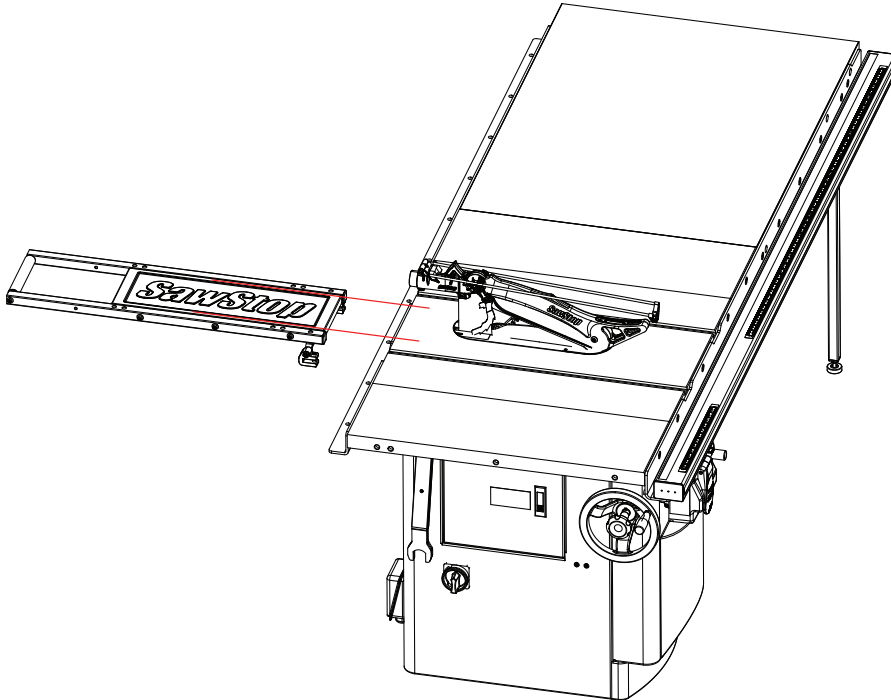

Fig. 12
- 9 Slide the two rear rail clamps onto the rear rail of the table saw, and use a 5mm hex I-wrench to tighten the M10 set screws against the rear rail. See Fig. 12.